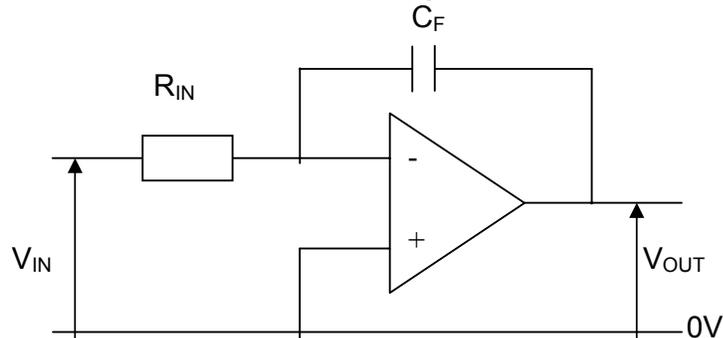

FIGURE 7.4 – OPERATIONAL AMPLIFIER CIRCUIT
7.5 Identify the circuit shown in FIGURE 7.4. Draw TWO labelled cycles of the input and output wave forms on one graph.